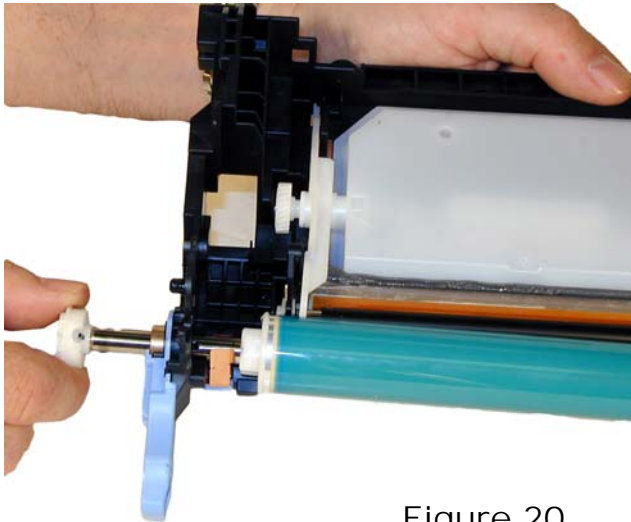

Figure 20
8) Pull the drum axle out from the cartridge. Be careful of the drum as it will come loose. See **Figure 20**